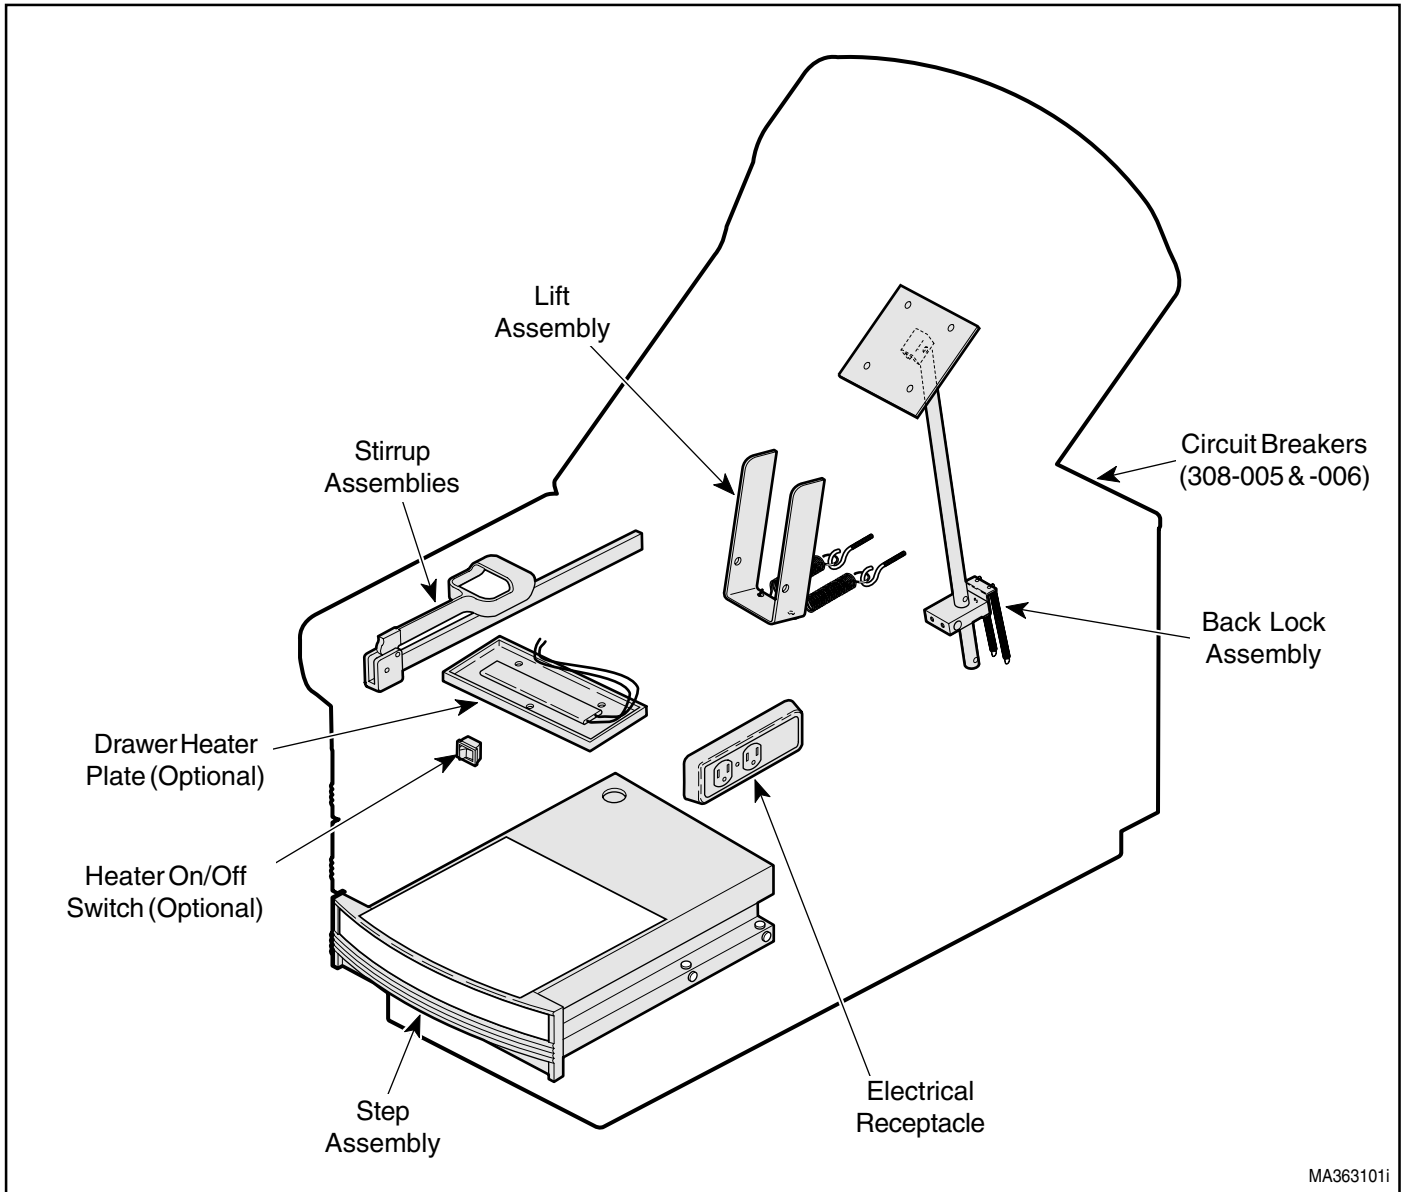

Figure 1-1. Major Components
A. General Description (See Figure 1-1).
The major serviceable components of the table are the drawer heater plate (optional) (1, Figure 1-1), heater ON/OFF switch (optional) (2), electrical receptacle (3), back lock assembly (4), lift assembly (5), step assembly (6), and two stirrup assemblies (7). The Canadian units (308-005, -006) have two circuit breakers but no drawer heaters.